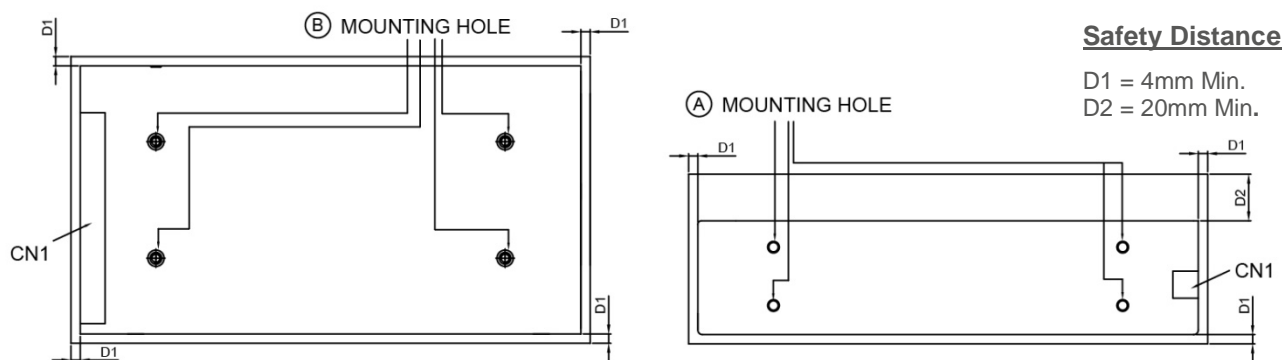
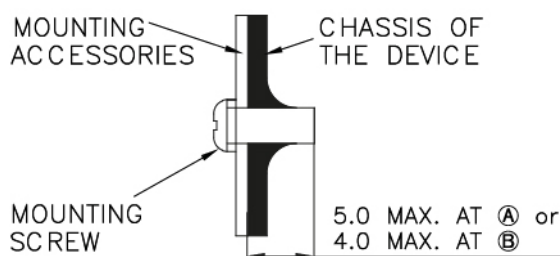

Fig. 3 Mounting Hole Locations and the Safety Distance
Fig. 4 Assembly Reference
- Ⓐ Side Mounting: Fig. 2 and Fig. 3 show the mounting hole locations for power supply assembly onto a metal mounting surface. The power supply shall be mounted on minimum of 4 mounting holes using M4 screw maximum 5mm length (Refer to Fig. 4). This is to maintain a safety distance between the screw and internal components.
- Ⓑ Base Mounting: Fig. 2 and Fig. 3 show the mounting hole locations for power supply assembly onto a metal mounting surface. The power supply shall be mounted on minimum of 4 mounting holes using M4 screw maximum 4mm length (Refer to Fig. 4).